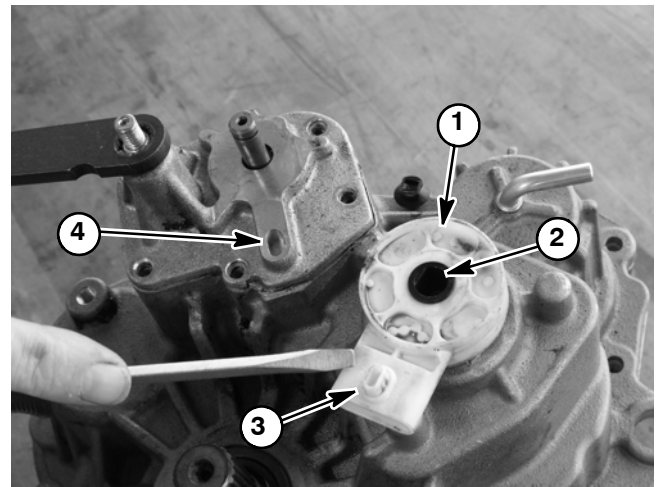

Figure 56
- B. Slide rotary switch from shift drum shaft. For assembly purposes, note alignment post on switch that locates in slot of sector gear cover (Fig. 56).